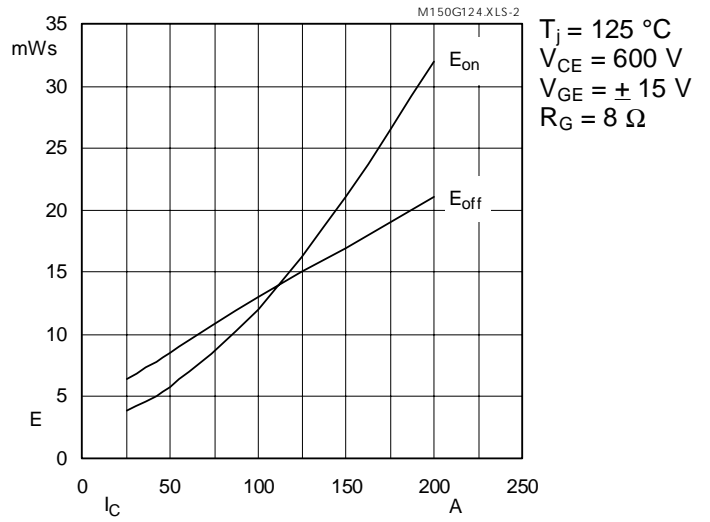

Fig. 2 Turn-on /-off energy  $= f(I_C)$
5) See fig. 2 + 3; RGoff = 8 Ω